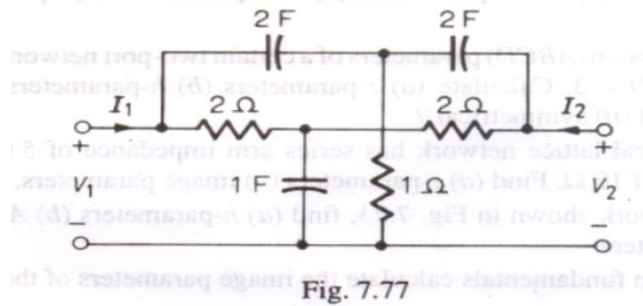

Fig. 7.77
12. For the network shown in Fig. 7.77, calculate the y-parameters.